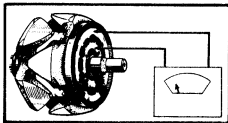
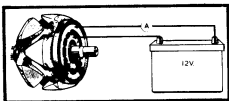

Fig 2 - Rotor winding resistance test using Ohmmeter
Fig.3 - Rotor winding resistance test using Ammeter
- Test the rotor winding by connecting either an ohmmeter (Fig. 2) or a 12 volt battery supply, in series with an ammeter (Fig. 3) between the sliprings. The reading of resistance should be approximately 3.8 ohms. If the alternative test has been made, the value of the current should be approximately 3.2 amperes.